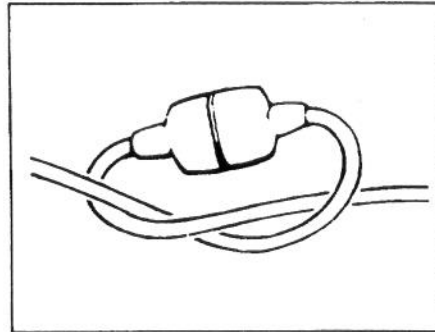

Figure 10
1. Secure the pigtail power cord and a suitable extension cord as shown in figure 10.